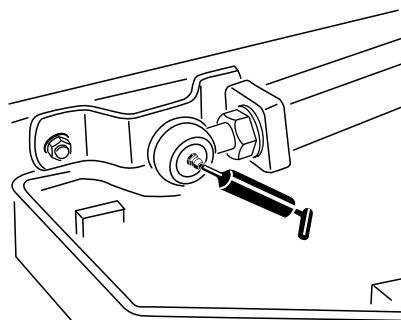

Figure 83
- 2 lift-arm ball joints (Figure 83)